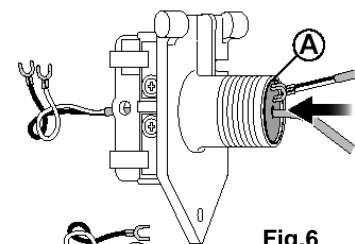
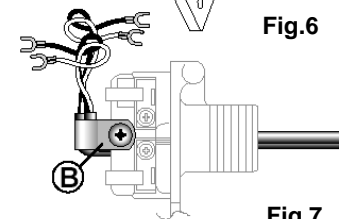

Fig.6
Fig.7
3. Thread the water controller cable through the weather seal of the cable access hole (A) (Fig.6) in the direction shown allowing sufficient cable length so that the sheath of the cable can be secured with cable clamp (B) supplied with the water controllers (Fig.7).